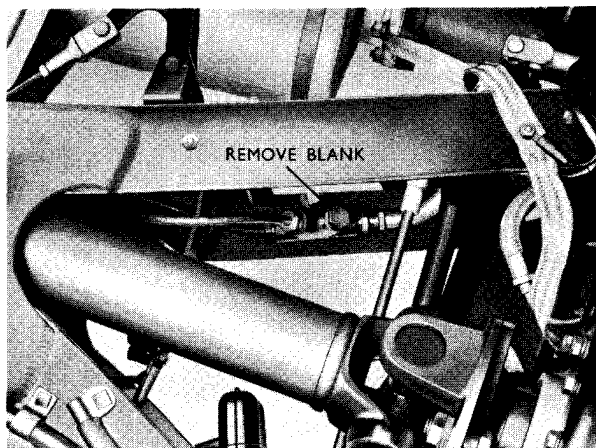

Fig. 4 Priming the ride control oil pump
2. Remove the blank from the four-way connection on the ride control oil delivery pipe (fig. 4).